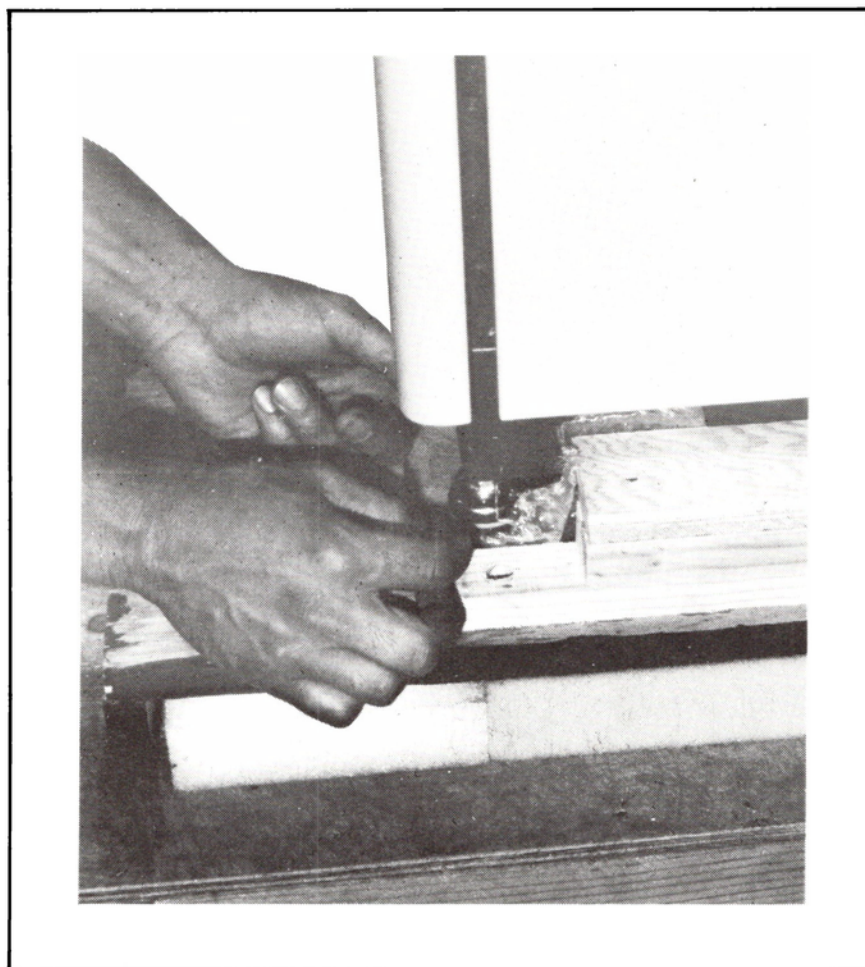

Figure 2-4. Adjusting The Levelers
4. Adjust the levelers up as shown in Figure 2-4.